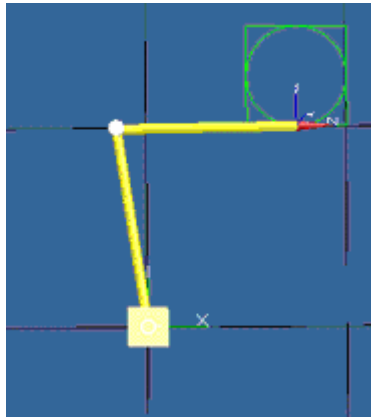

Fig. 2.18 Square and circular path
6. Write a program following the square path and then circular path written inside square, as shown in Fig. 2.18.